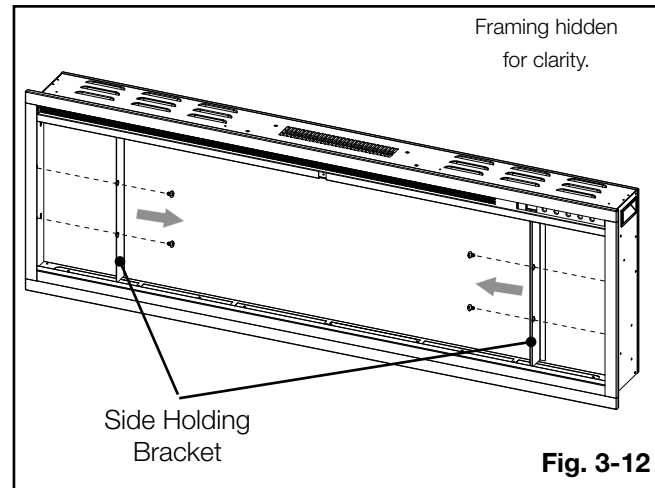

Fig. 3-12
- C. Remove side holding brackets by removing the screws from inside the appliance (**Fig. 3-12**). Reinstall the screws after removing from outer trim.